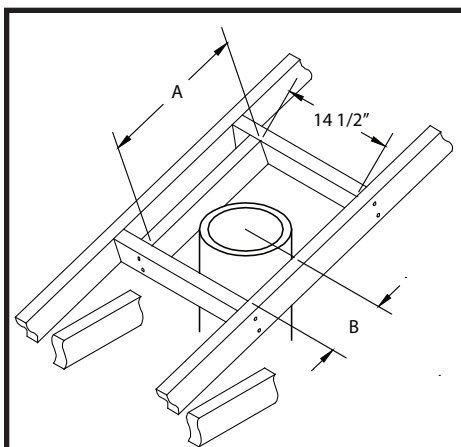

Figure 36: Roof opening frame.
2. Continue adding vent pipe lengths up and through the firestop(s) and through the roof. The vent pipe must extend at least 12" above the roof. Vent pipe may need to extend further depending on the roof pitch. See table in (Figure 36) for precise lengths.